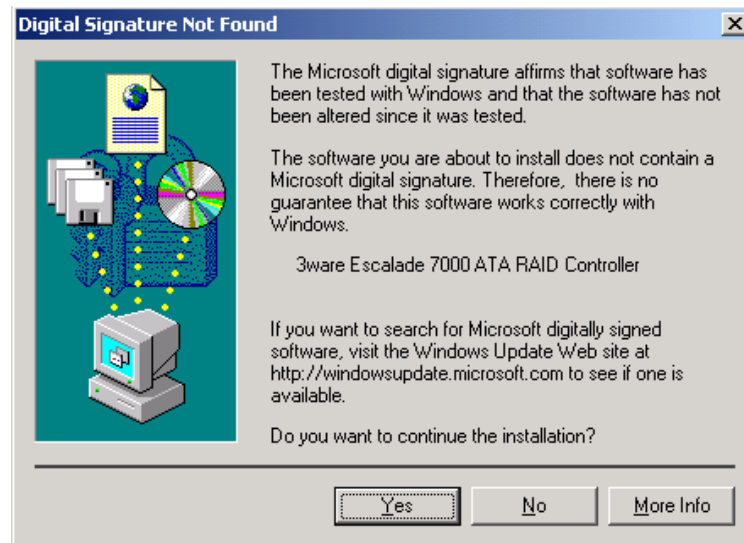

Figure 32. Digital Signature Not Found
- 5 Depending on the driver that was packaged with your ATA RAID controller the **Digital Signature Not Found** screen may appear (see Figure 32). If this screen appears, click on **Yes** to continue and follow the instructions to complete the driver installation.